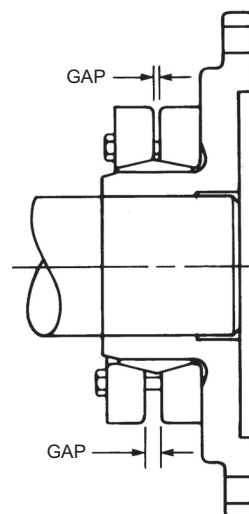

Figure 5
- (6) Tighten three or four equally spaced shrink disc locking screws to establish a parallel condition of the collar faces, and a perpendicular position of the shrink disc collars relative to the shaft. This will properly seat the collars on the taper of the inner ring and avoid cocking of the collars. The following gap parallel tolerance values are recommended for the shrink disc sizes listed below. See Figure 5.